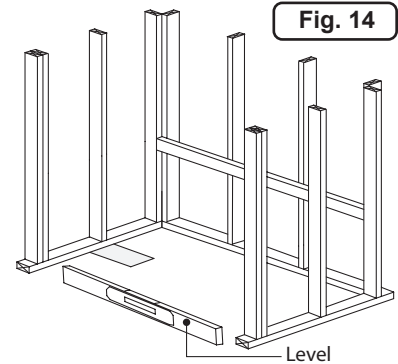

**Fig. 13**
6. Apply a continuous bed of silicone sealant around the entire seam between the counter and the bathtub rim. Allow sealant to cure according to manufacturer's instructions (Figure 13).